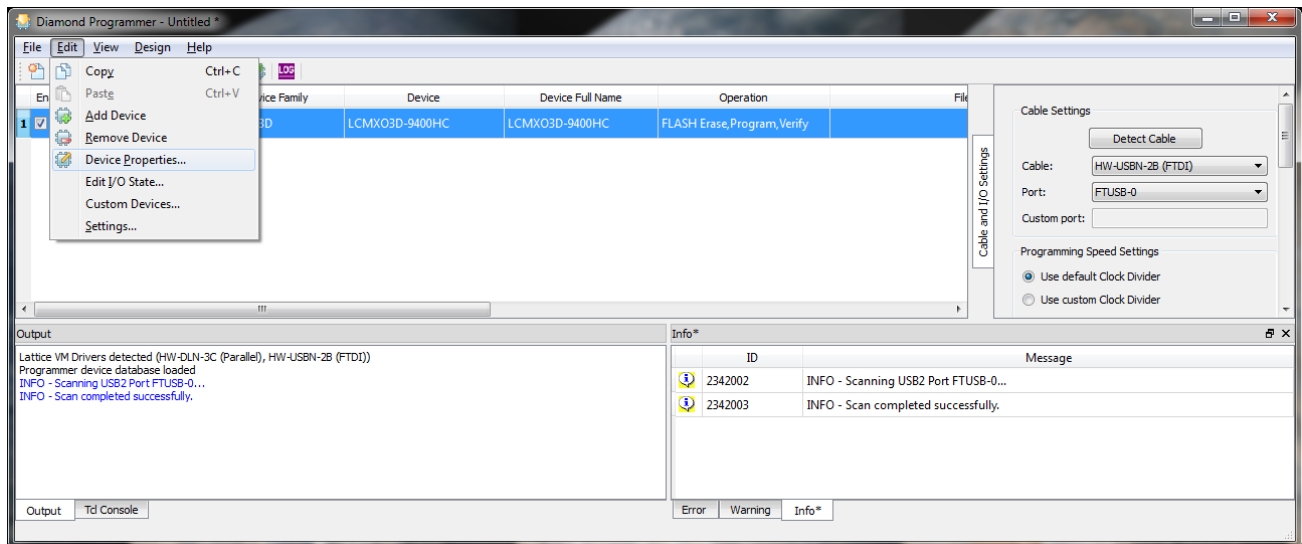
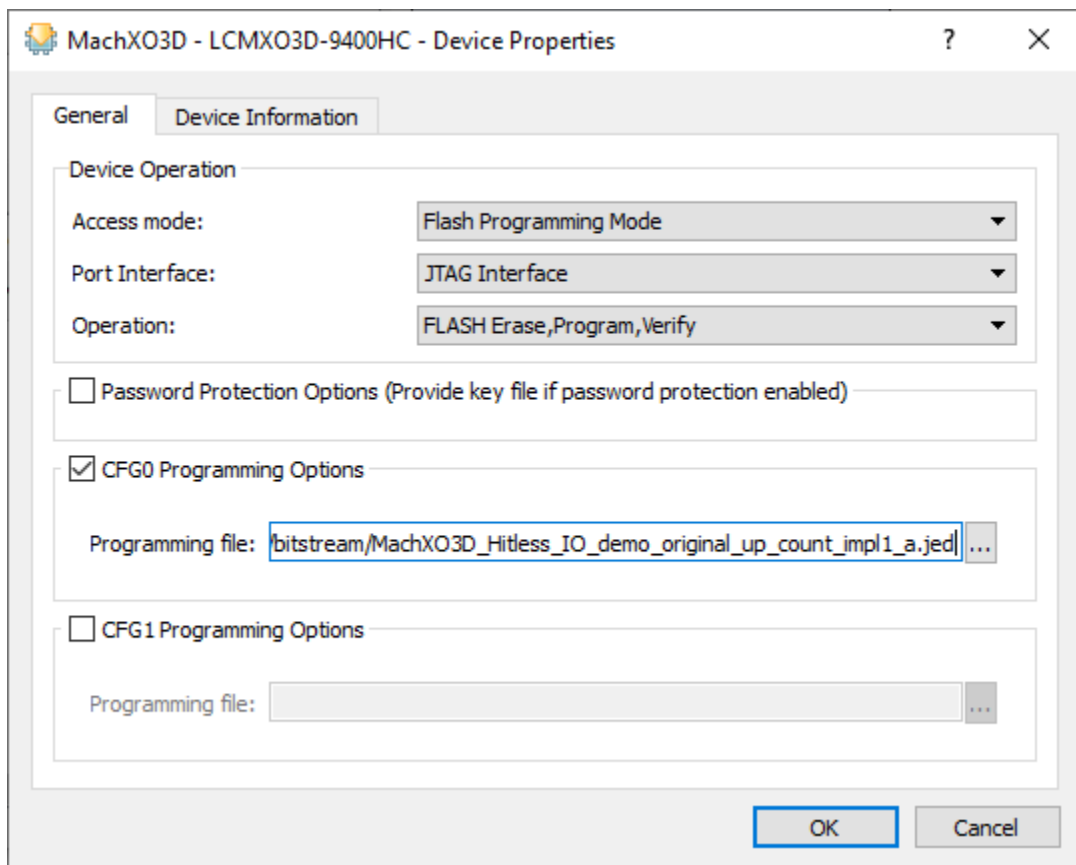

Figure 6.3. Edit > Device Properties Option
Figure 6.4. Browse Programming File
3. Click to highlight the device row. Select **Edit > Device Properties** from the menu bar (Figure 6.3). You can edit the access mode, operation mode, and select the programming file in this Device Properties dialog (Figure 6.4).
- In the Device Properties dialog box (Figure 6.4), select **Flash Programming Mode** from the **Access mode** dropdown menu, and **Flash Erase, Program, Verify** from the **Operation** dropdown menu. Browse to select the bitstream file `.\bitstream\MachXO3D_Hitless_IO_demo_original_up_count_impl1.jed` in the **Programming file** field. Click **OK**.
Programming the Device	Updated Figure 6.4 .